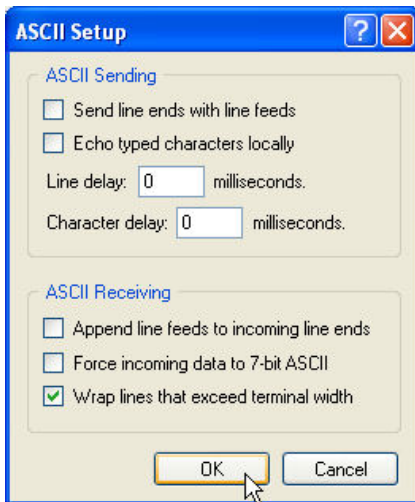

FIGURE 20
- 7 The BBS (ADI-24M11 5th & Vine in this case) **'ASCII Setup'** window appears. Fill in the fields as shown in Figure 20. Click the **OK** button.